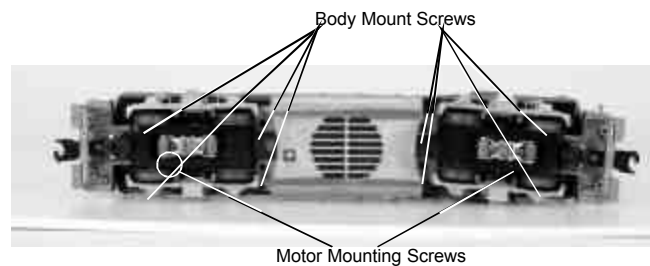
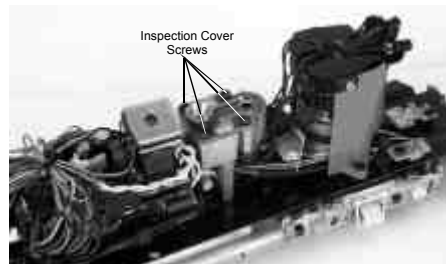

Figure 5: Body Removal Screw Locations
Figure 11 : Smoke Unit Inspection
1. To access the gear box, remove the cab from the chassis by unscrewing the chassis screws as seen in Figure 5 and lifting the cab from the chassis.
2. Once the cab is removed, remove the trucks by unscrewing the black Phillips motor mount screw located on the underside of the drive trucks (see Fig. 5).
First, remove the trucks from the chassis by unscrewing the body mounting screws as noted in Figure 5. Next, remove the trucks from the chassis by unscrewing the truck mounting screw also noted in Figure 5. Finally, turn the removed truck over and locate and remove the truckside screws to gain access to the drive wheel traction tires behind the truckside.
If you experience poor or no smoke output when the smoke unit is on and has fluid, check the wick to see if it has become hard, blackened, and unabsorbent around the heating element. After removing the locomotive body from its chassis (See Figure 5), remove the smoke unit inspection cover (see Fig. 11). After removing the inspection cover screws, lift the inspection plate away and inspect the wick. If it is darkly discolored and hard, it should be replaced.